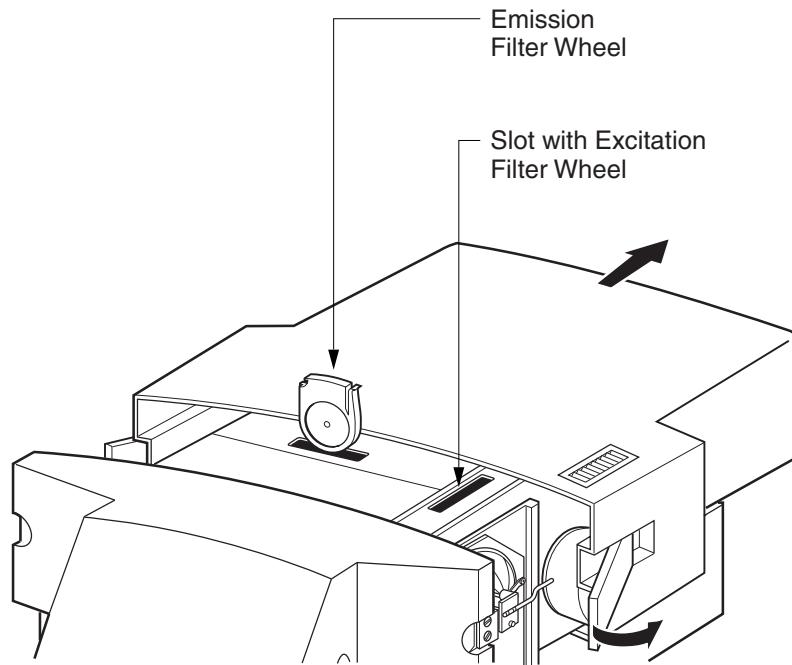

Fig. 2.2. Installing the filters.
3. Remove the two rubber plugs on the top of the filter wheel housing by pulling them straight upward. These plugs shield the filter wheels. The excitation filters are located in the slot on the right side of the instrument; the emission filters are located in the slot in the center of the instrument (see Figure 2.2). The tops of the filter blanks in position 1 (the "home" position) should be visible in the slots containing both the excitation and emission filters; the number "1" should be visible in the slot on each side of both filters. Changing both types of filters is similar.